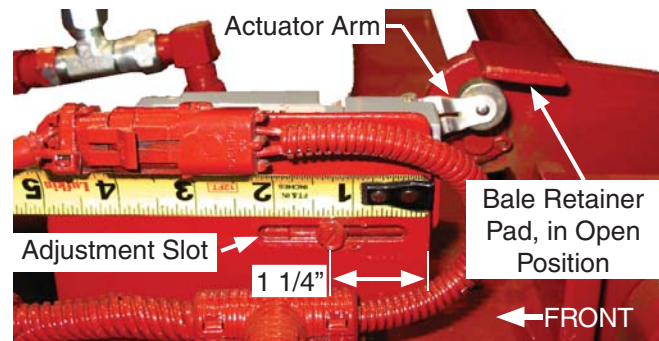

Figure 29 - Limit Switch - 10 Adjustment
1. Adjust the arm to contact on the bottom surface of the metal pad on the Bale Retainer. The arm should be positioned such that it will not bind or bend when contacting the pad surface. This will happen if the roller is adjusted to contact the surface at a perpendicular angle (see Figure 29).